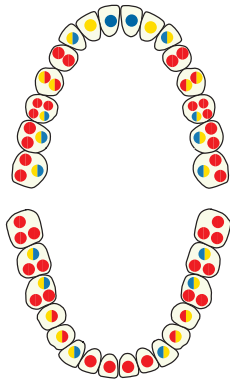

Abb. 1 / Fig. 1/ Schéma n°1/ Rys.1 / Obr.1
1. DT White Post® passend zu den anatomischen Gegebenheiten des Zahns, anhand des Röntgenbildes und der Abb.1 auswählen.
1. Select the correct DT White Post® according to the anatomical situation, the radiograph and the indications on fig. 1.
2. Determine the post length considering that approximately 1/2 to 1/3 of the total post length must be inserted into the root canal. Remove the root filling with the DT Universal Drill, ref. 0935 000 (rotation speed 1000-2000 rpm). At least 4 mm of root canal filling should remain apically. However, in the presence of severely curved canals this calculated length is not always correct.
3. Shape the canal with the DT Finishing Drill (ref. 0935 001 or 0935 002 or 0935 003) according to the selected DT White Post® at a rotation speed between 1000-2000 rpm.